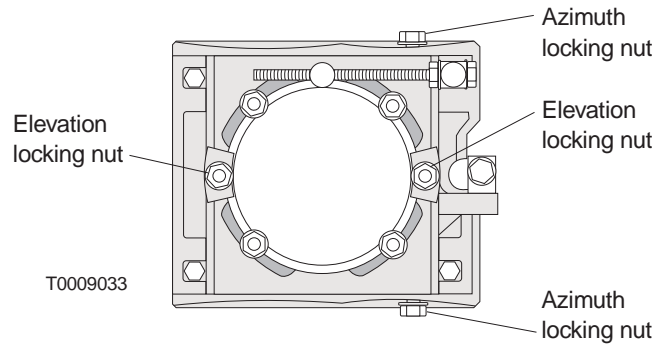

Figure 7-5 Azimuth and elevation locking nuts
8. Make sure the azimuth and elevation locking nuts on the antenna mount are loose—just loose enough to allow the antenna to rotate (for elevation adjustment) and move in azimuth. These nuts are shown in figure 7-5.
- c. When the peak voltage reading remains steady between 0.2 volts and 3.9 volts, tighten the azimuth and elevation locking nuts (figure 7-5) to 16 foot-pounds (21.7 Newton-meters) torque.